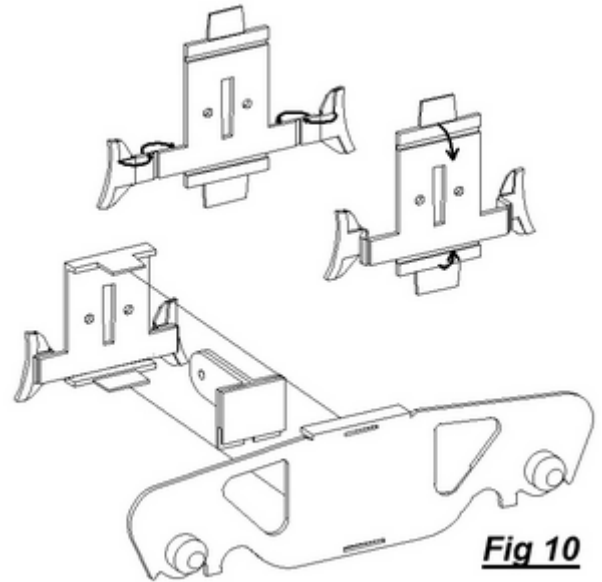

Fig 10
Remove the Slide and rocking plates (5) from the etched sheet. Fold the brake shoes back (2 x 180°) on themselves as a Z format (Fig 10), check the alignment, and compress with pliers. Apply flux and solder sparingly to the edge of the brake shoe fold laminate. It is important that you keep the inner and outer sliding faces of the rocking plate free of solder. Polish with a fine emery stick, if necessary, to remove any solder contamination.
Fold the edges with tabs 90° and check the fit in the back of the side frames; the tabs are of differing widths so that they will only fit one way; the wider tab on the slide plate goes into the lower slot of the side frame. Withdraw the slide plate and insert a fulcrum slide from the back, **with the spring channel at the bottom**, next to the wider tab (Fig 10).